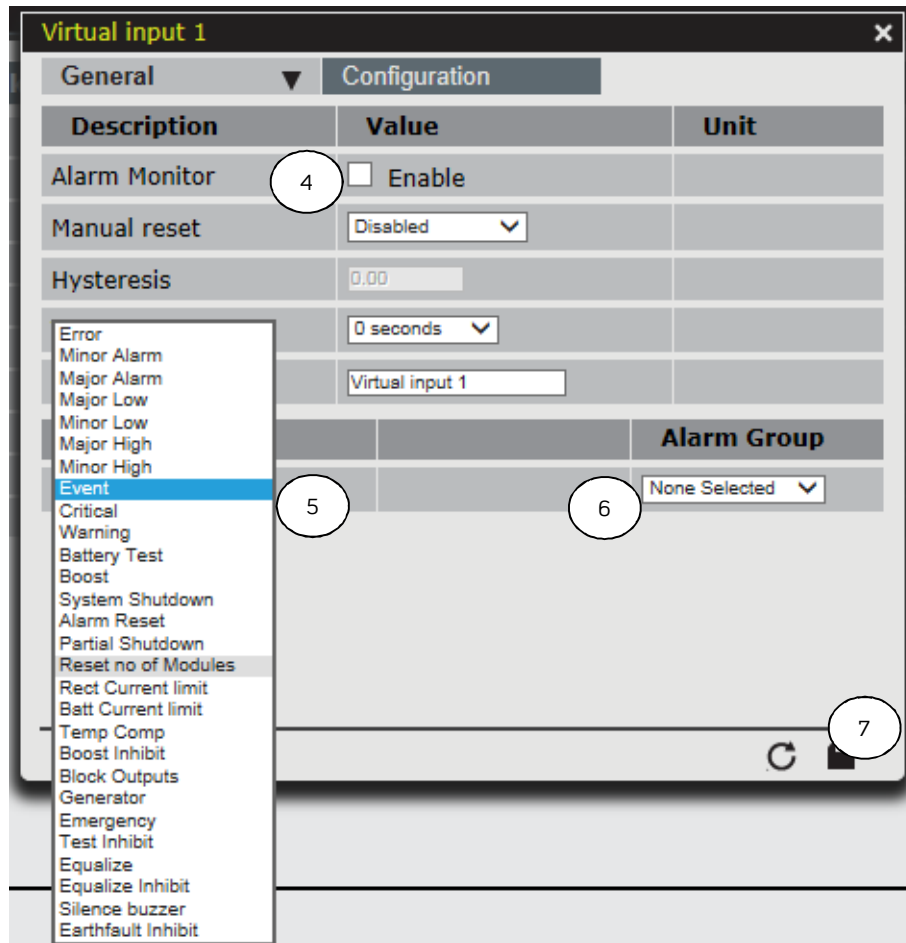

Figure 24 - Alarm Input Edit Window
4. Check the "Enable" box (Figure 24).